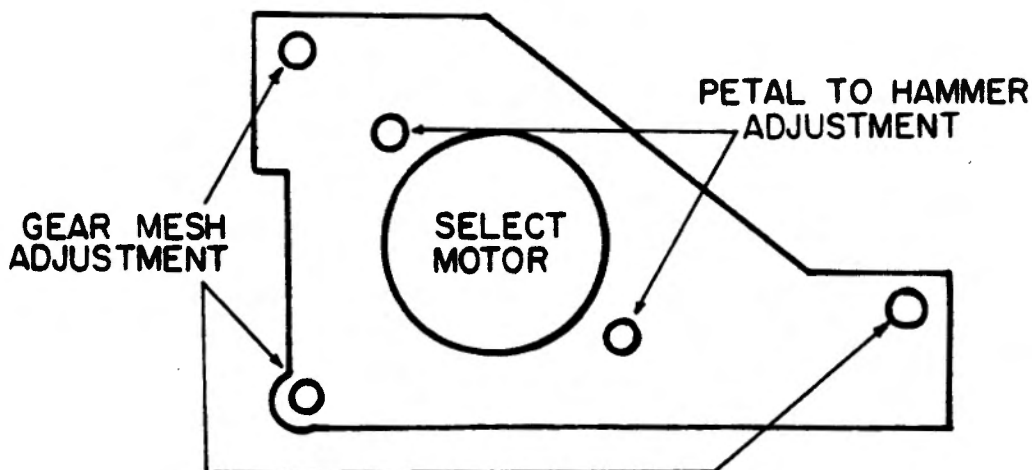

Figure 1
DISCUSSION: DMP 2100P Control Boards (AX-9460) have undergone some changes. These changes involve replacing EPROMs with Mask ROMs so as to reduce the number of ICs necessary on the board. There is no change in the information contained in these new Mask ROMs but there are some different part numbers for these new Mask ROMs, as well as jumper configurations on the Control Logic Board which should be noted. Also, there will be a new revision board found in units with a serial number of 6967 and above. This new board is completely interchangeable with the original board, although there are some small differences. One difference is that the new board will substitute one Mask ROM for four EPROMs. An additional IC (IC 81, A 74LS04) has been added to change the active status of certain control signals used in the ROM chip select circuit. Figure 1 is a schematic which shows the area of the circuit that has been changed.
7. The first part of this alignment procedure is to reduce the play in the mesh of the select motor gear and the print wheel gear. There are three screws (see figure 1) around the select motor which can be loosened to adjust this. To check this, remove the print wheel and, using your finger, test the tension by rotating the print wheel gear slightly to see how much play is involved.
9. The second part of this alignment procedure is to align the petal to the hammer. There are two screws (see figure 1) which can be loosened to allow the select motor to be rotated on it's axis. Loosen these screws, rotate the select motor (observing the movement of the petal in relation to the hammer) until the petal matches up to the hammer.